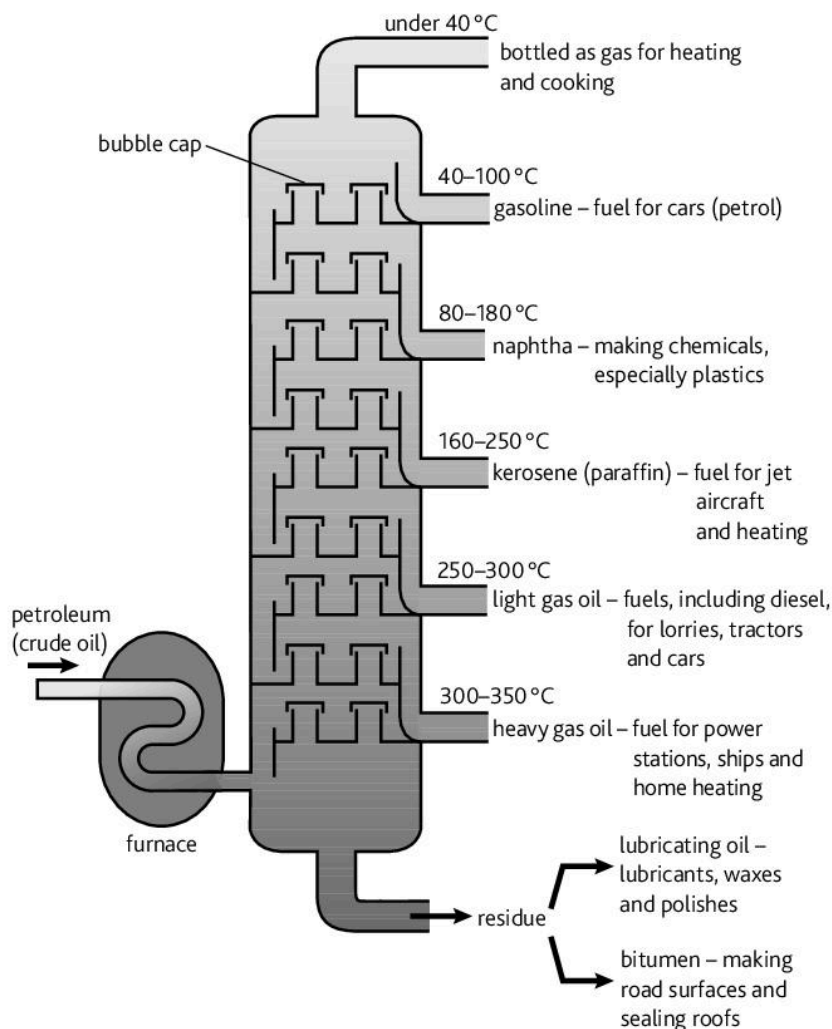

Figure 12.1.1 The fractions arising from the distillation of crude oil. The diagram is simplified and does not show all the reflux pipes in the tower.
The names of the different fractions and their uses are shown in Figure 12.1.1, which also shows where they come off from the distillation column.
The crude oil is heated in a furnace at about 400°C. The vapour is then fed into a fractionating tower (column) which contains about 40 ‘trays’ containing bubble caps (see Figure 12.1.1). These allow thorough mixing of the vapour with descending liquid. In modern refineries the bubble caps are replaced by jet trays which are metal sheets with depressions in them.
Naphtha or gas oil from fractional distillation in an oil refinery (see Figure 12.1.1, p. 134) are the feedstocks. Cracking is usually carried out using a catalyst in a catalytic cracking unit (cat cracker). This type of cracking is called **catalytic cracking**. The vapours from the gas-oil or kerosene fractions are passed through a catalyst of silicon(IV) oxide and aluminium oxide at 400–500°C. The catalyst is a fine powder and has to be continuously recycled to the cat cracker through a regenerator tank. This frees the catalyst from any carbon deposited on its surface. Modern catalysts include compounds called zeolites which are aluminosilicates.